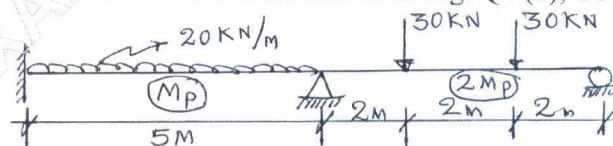

Fig. Q4 (b)
b. Calculate plastic moment for the beam shown in Fig. Q4 (b), Use load factor 2. (12 Marks)